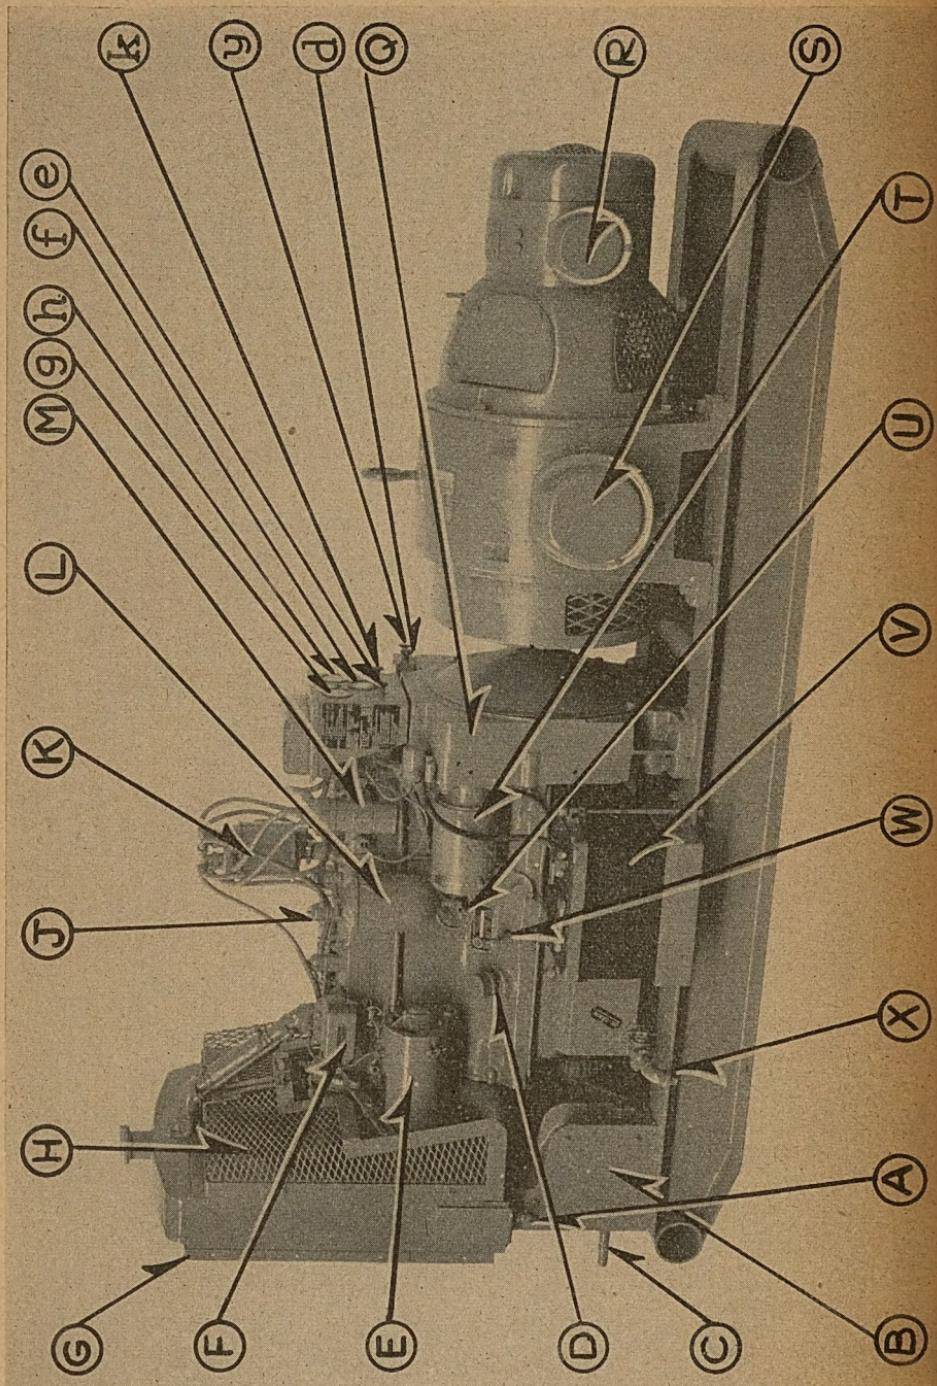

Figure 2. Power Unit PE-79-F, right side.
LEGEND FOR FIGURE 2.
(2) **OILING SYSTEM.** Main, connecting rod, and camshaft bearings are lubricated by oil pressure supplied by a gear-type oil pump. Other internal parts are spray-lubricated. An oil filter (fig. 2 [L]) is used to remove foreign matter from the oil as it circulates through the engine pressure system. A bayonet-type oil level gauge is mounted on the right side of the engine (fig. 2 [W]).
(4) IGNITION SYSTEM. A battery ignition system is used. A distributor is mounted at the top of the engine, and is gear-driven from the engine camshaft. This unit includes the breaker mechanism, capacitor (condenser), and rotor assembly, all three parts contained within the distributor casing. A high-tension coil (fig. 2 [M]) is used to generate the high voltage. The distributor (fig. 2 [K]), spark plugs (fig. 2 [J]), and ignition wiring are shielded to minimize radio interference.
(5) SIX-VOLT BATTERY SYSTEM. The belt-driven charging generator (fig. 2 [E]) supplies current to recharge the 6-volt battery (fig. 2 [V]) located on the right side of the engine. The storage battery also supplies power for electric starting and for ignition during the starting period. A combination voltage regulator (fig. 2 [F]) and reverse-current relay controls the charging rate and the opening and closing of the charging circuit. The starting motor (fig. 2 [T]) is equipped with a Bendix drive gear which automatically engages the flywheel ring gear when the starting button (fig. 2 [K]) is pressed.
(6) ENGINE CONTROL PANEL. The engine is provided with two control panels mounted on the flywheel housing. The large control panel contains a 50-0-50 d-c ammeter, an oil-pressure gauge, a water-temperature switch, and an oil-pressure safety switch. The hand throttle and choke are located on the smaller panel.